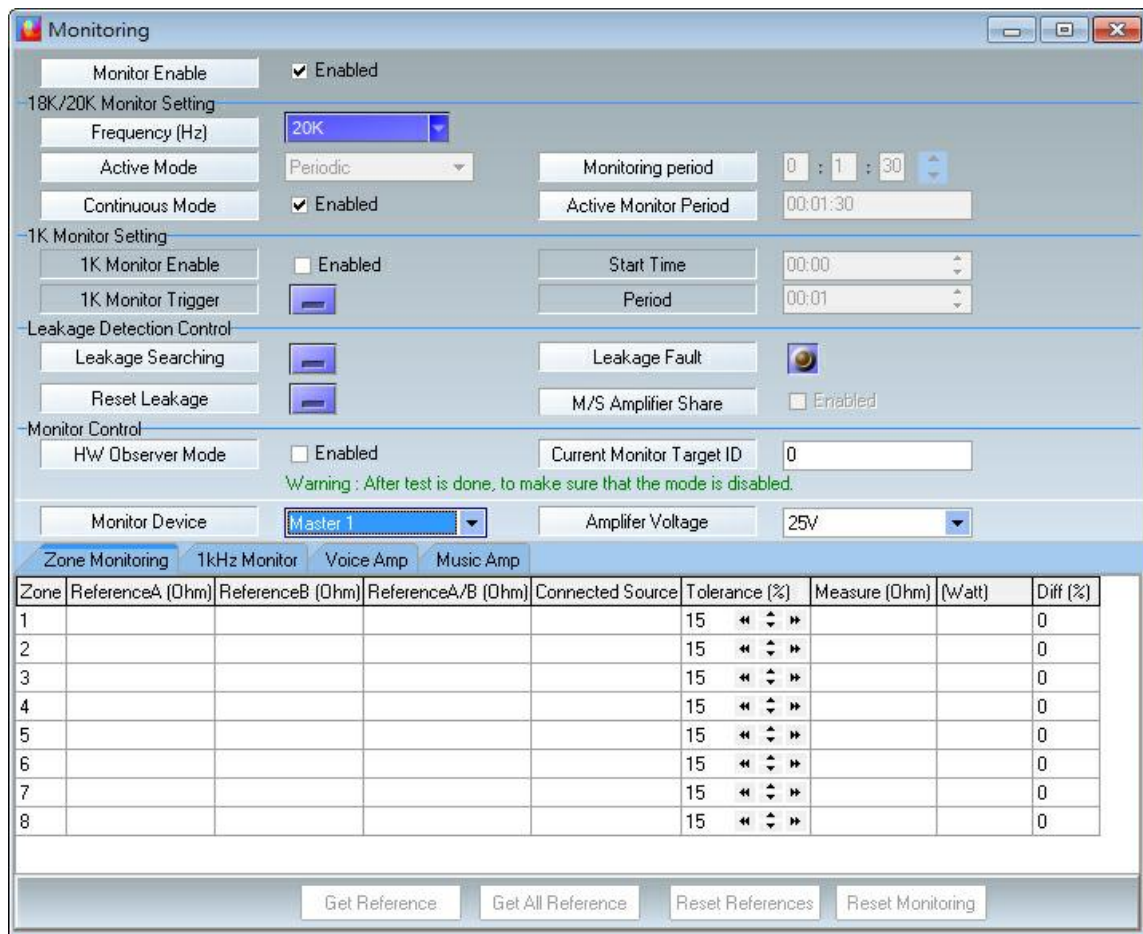

Figure 24: Monitoring Window
- In the "Monitoring" window(Figure 24), you can see the machine display. It informs which DIVA you are currently monitoring.